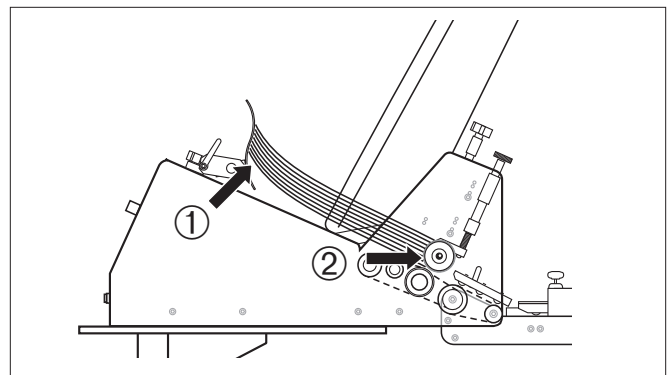

Figure 22. Envelope Edges Against Gate Assembly
3. At the back of the wedge, ensure that the trailing edges of the envelopes are off the table top and feed belts (Figure 22, ①).
4. Ensure that the envelope edges are against the curvature of the gate assembly (Figure 22, ②).